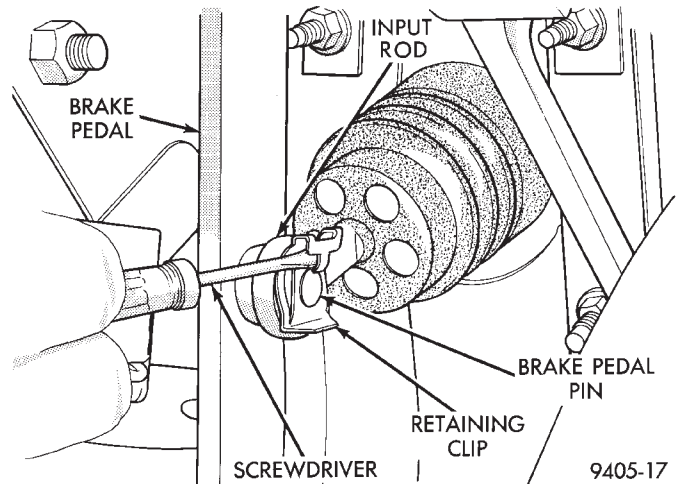

Fig. 77 Input Rod Retaining Pin
(13) Remove the vacuum hoses from the check valve located on the power brake vacuum booster.
(14) Locate the power brake vacuum booster input rod to brake pedal attachment under instrument panel. Position a small screwdriver between the center tang on the power brake booster input rod to brake pedal pin retaining clip (Fig. 77). Rotate screwdriver enough to allow retaining clip center tang to pass over end of brake pedal pin. Then pull retaining clip off brake pedal pin. **Discard retaining clip. Replace only with a new retaining clip when assembled.**